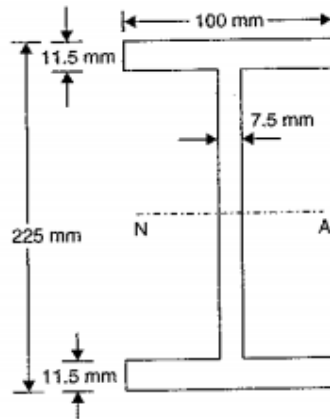

Fig.5
- 7 a) An I section shown in fig 5. is simply supported over a span of 12 m. If the maximum permissible bending stress is to 80 N/mm^2 , What concentrated load can be carried at a distance of 4m from one support?